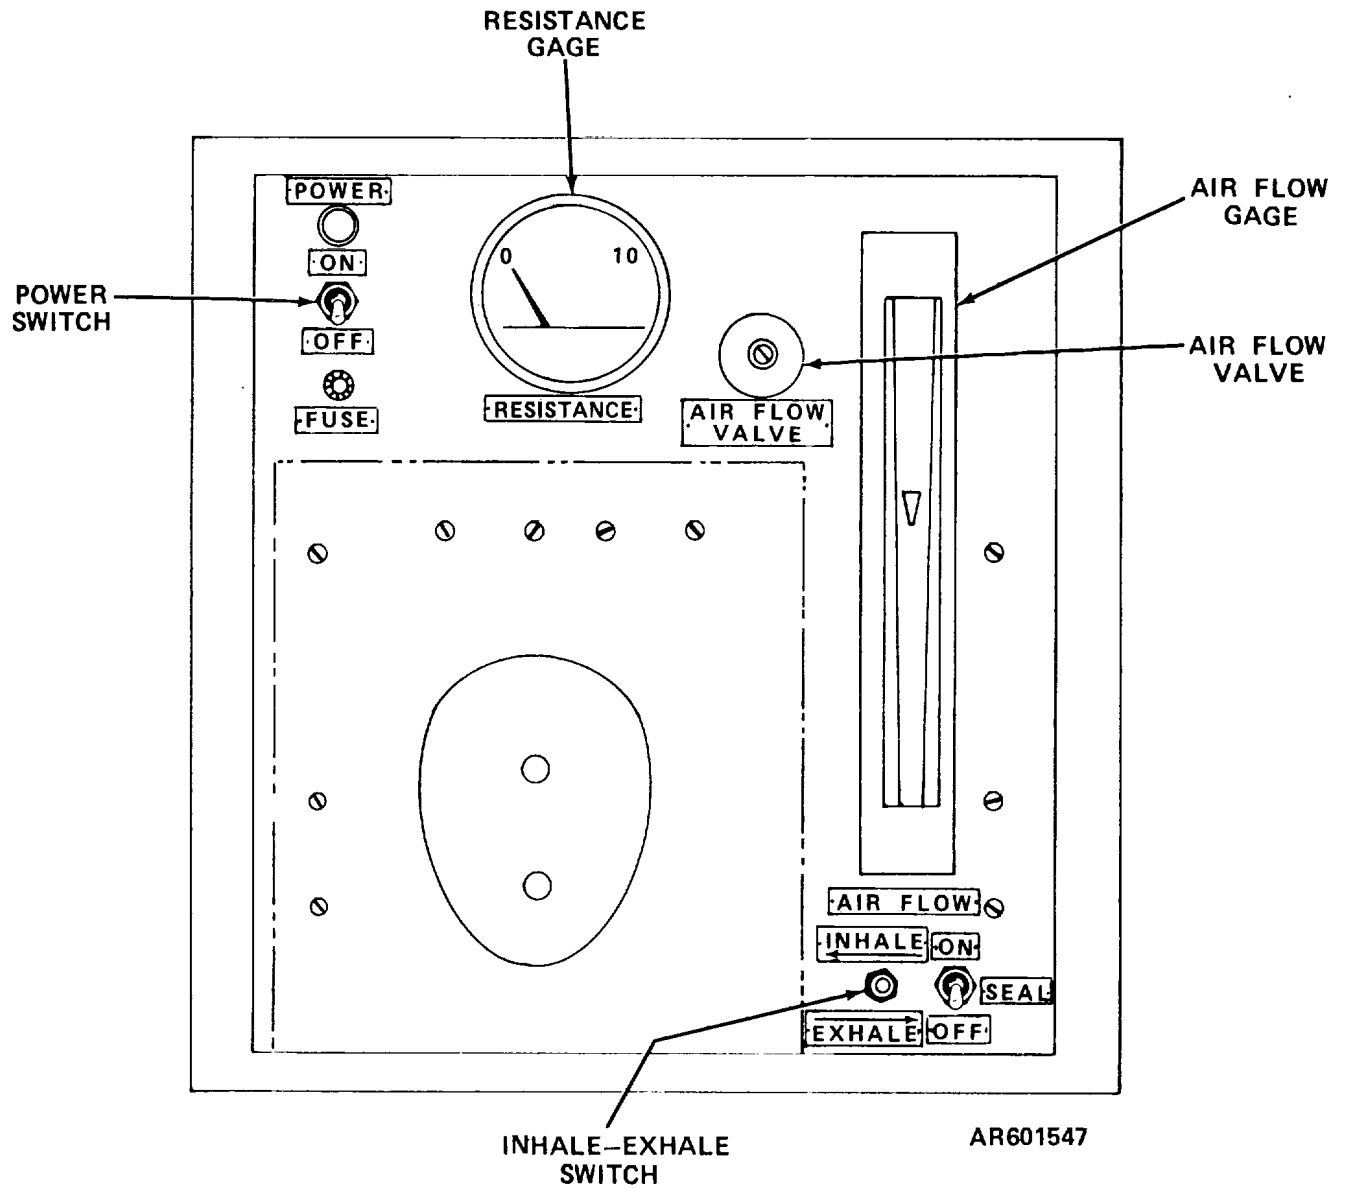
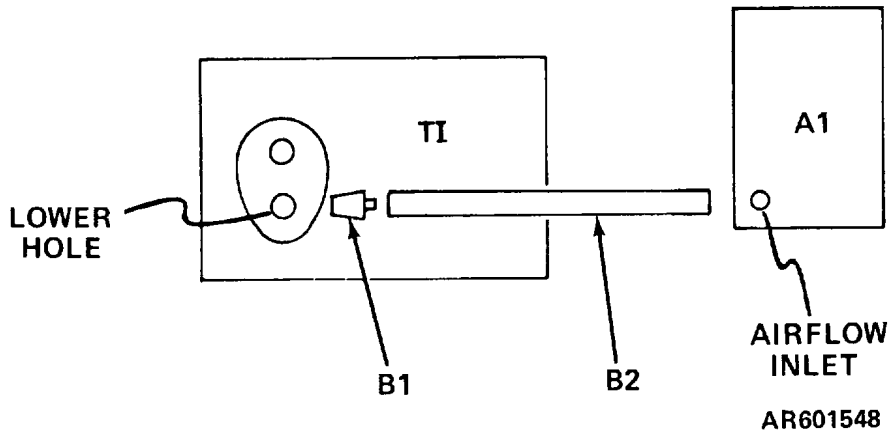

Figure 2. Location of TI controls and instruments used during calibration.
Figure 3. AIR FLOW gage performance check, equipment setup.
7. Equipment Setup. (fig. 2). *a.* Adjust the mechanical zero-adjustment on TI resistance gage to zero.
(1) Connect the test equipment as shown in figure 3.
(2) Set and hold the INHALE-EXHALE switch to EXHALE.
(3) Adjust the AIR FLOW VALVE until the AIR FLOW gage (fig. 2) indicates 85. The flowmeter (A1) must indicate between 225 and 235.
(4) Release the INHALE-EXHALE switch.